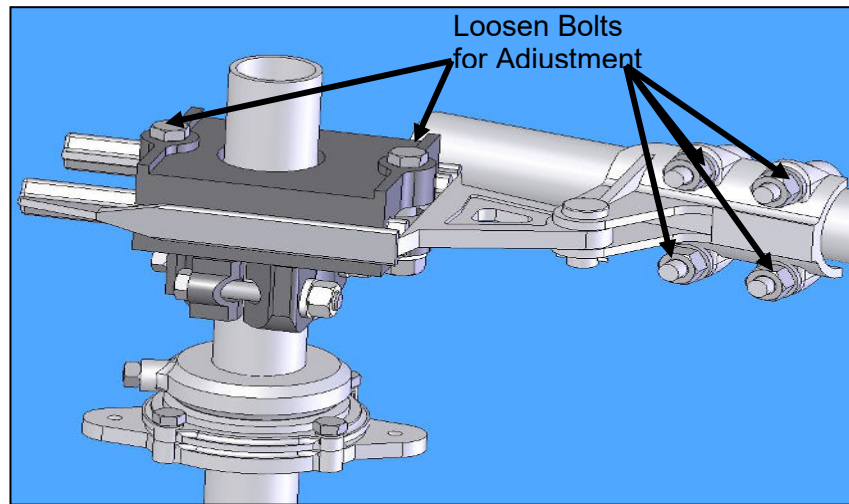

Figure 8: Adjustable Arm Assembly
- 5.4 If the switch **does not** fully open before the operator reaches the fully open position, the adjustable arm radius is too short. Close the switch, match-mark the adjustable arm and the pipe clevis, and loosen the bolts on the adjustable arm and pipe clevis. Lengthen the adjustable radius arm approximately ¼". Allow the pipe clevis to reposition itself the same ¼". Refer to **Figure 8**.
- 5.5 If the switch is fully open before the operator reaches the fully open position, the adjustable arm radius is too long. Close the switch, match-mark the adjustable arm and the pipe clevis, and loosen the bolts on the adjustable arm and pipe clevis. Shorten the adjustable radius arm approximately ¼". Allow the pipe clevis to reposition itself the same ¼". Refer to **Figure 8**.